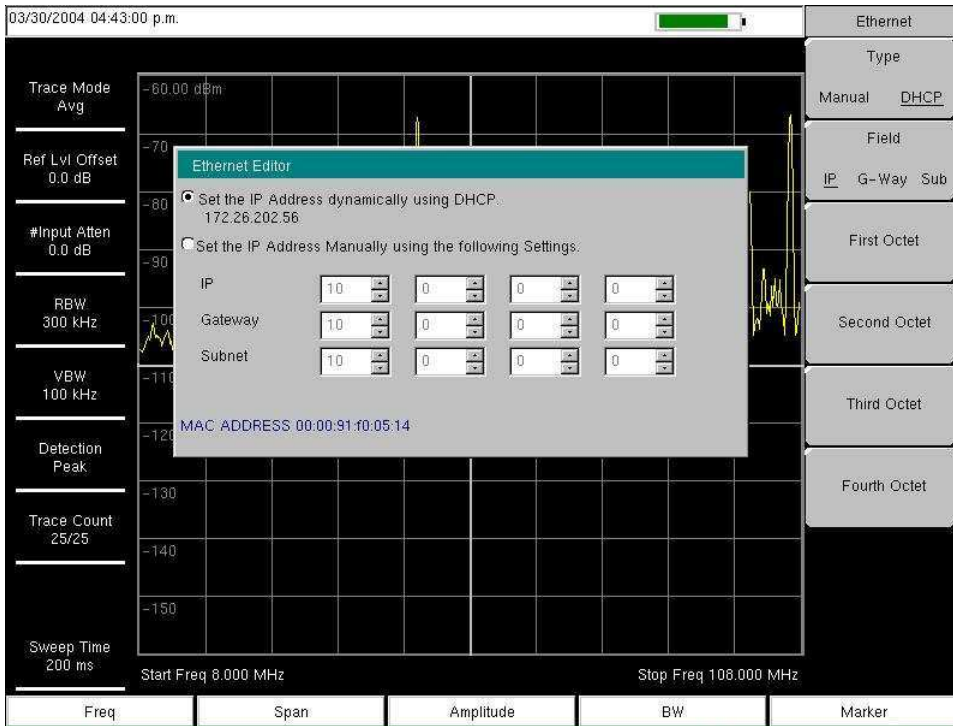

Figure C-1. IP Address Assigned Using DHCP
To display the IP address with the instrument on, press the **Shift** key, then the **System** (8) key, then the System Options soft key and the Ethernet Config soft key. The IP address will be displayed as shown in **Figure C-1**. The image on the display panel of your BTS Master may differ from the image shown here.